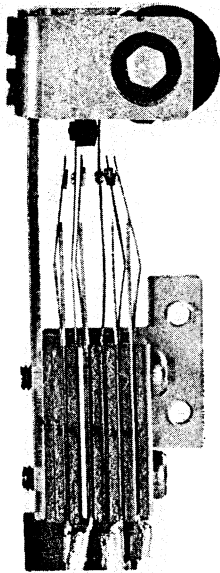

Fig. 6A — Control on Low
- Fig. 6A, 6B, and 6C show positions of contacts.